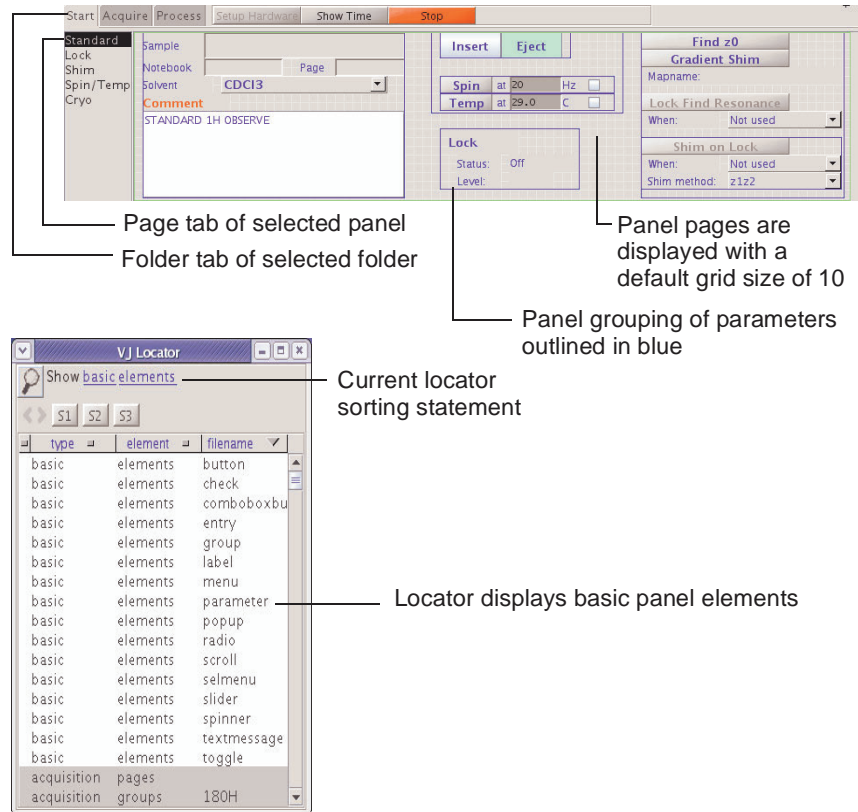

Figure 8. Panel and Locator when Panel Editor is Open
The current page is displayed in the edit mode with a grid, see **Figure 8**.
4. Select to **Locator** to display the locator panel, **Figure 8**, and the basic elements used to build a panel.